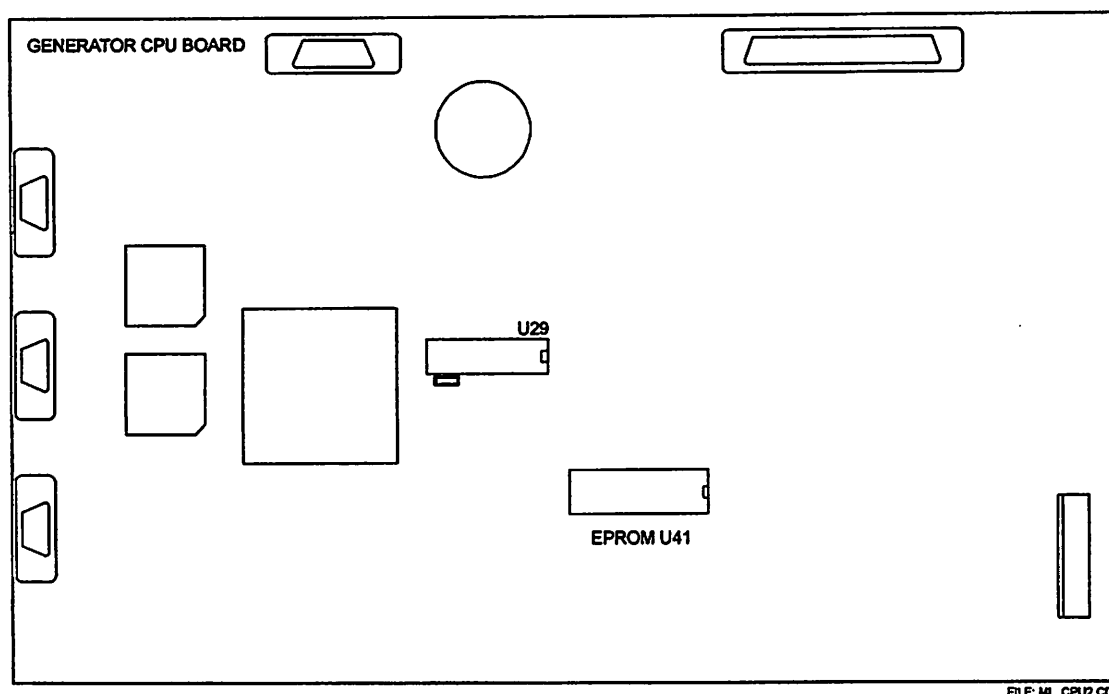

Figure 6-3: Software key location and orientation
1. With the generator mains power switched OFF, locate the socket for the "software key", U29, on the generator CPU board. Refer to figure 6-3.
3. Carefully insert the replacement "software key" into the U29 socket *observing the orientation per figure 6-3*.